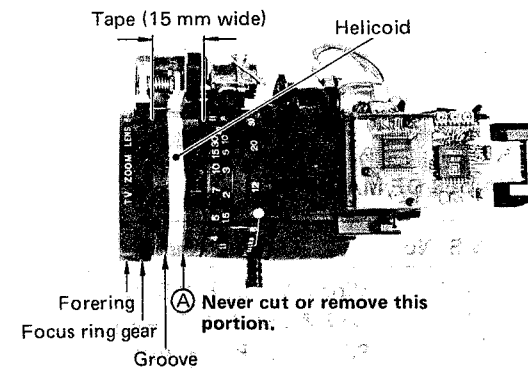

Fig. 1-13 Optical block assembly (A)
- As shown in Fig. 1-13 the forering and focus ring gear are fixed with polyester tape of 15 mm wide around the helicoid.
- When removing the forering, cut the polyester tape inserting a sharp cutter into the groove. However, be careful not to cut the part of (A) which is joined with the focus ring. (Removal of the focus ring causes disorder of the optical system.)